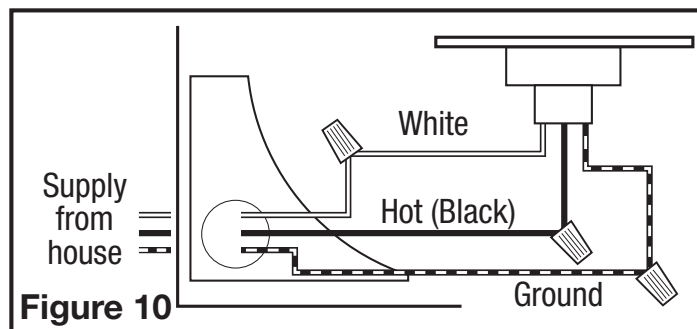

Figure 10
- From where you have access to inside the fan's junction box, connect the White wire from the house to the White wire from the fan's receptacle. Connect the Black wire from the wall switch to the Black wire from the fan's receptacle. Connect the ground wire from the house to the Green wire from the fan's receptacle (**Figure 10**). Use approved methods for all connections.